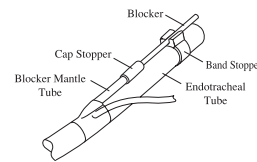

Fig.7
- Turn the patient on the side, check the blocker cuff position under bronchoscopy, and fix the blocker shaft on the endotracheal tube using the band stopper (Fig.7).
- Snap the blocker onto the band stopper on the endotracheal tube (Fig.7).